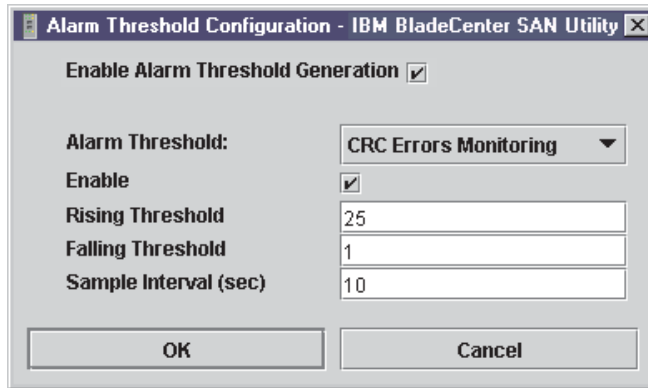

Figure 14. Alarm Threshold Configuration window
2. The Alarm Threshold Configuration window shown in Figure 14 on page 98, prompts you to select an event, set thresholds, set a sampling interval, and enable or disable the alarm.